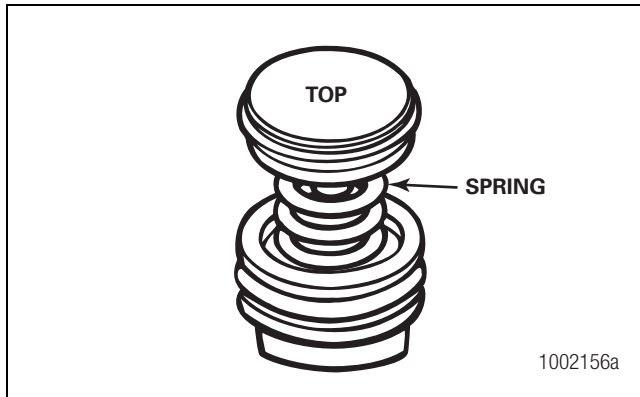
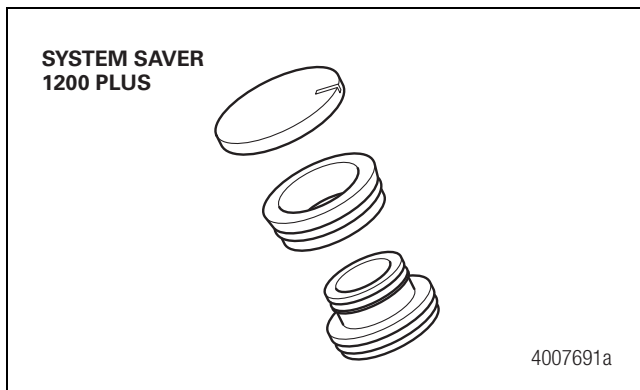

Figure 1.21
Figure 1.22
**Turbo Cut-off Valve:** A valve located in the inlet port of the air dryer. It closes the path between the air compressor and the air dryer purge valve during compressor unload. This prevents a loss of turbocharger boost pressure during a compressor unload cycle, thereby maintaining boost pressure for maximum engine horsepower. Figure 1.21 and Figure 1.22 (used exclusively on the 1200 Plus model).